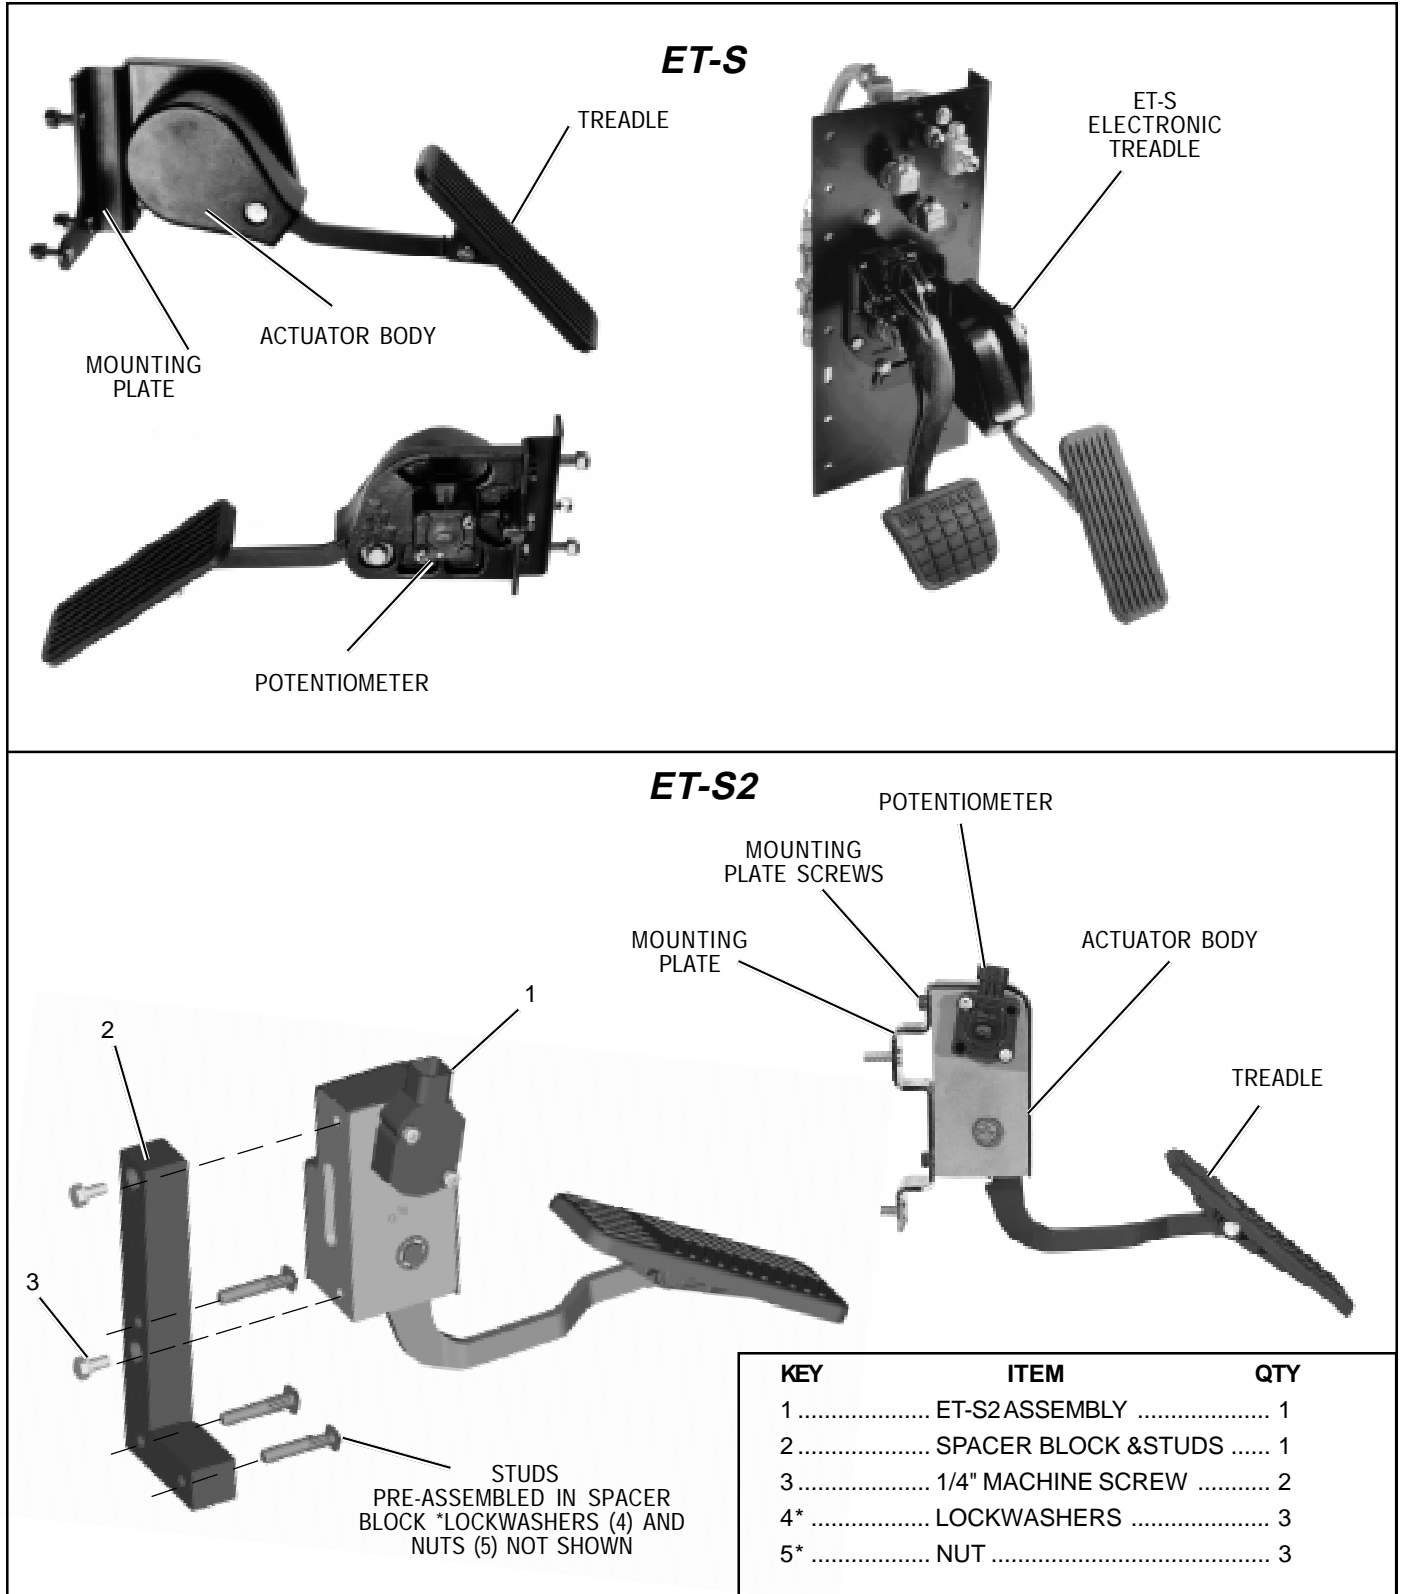

FIGURE 1 - ET-S & ET-S2
1. Use kit contents for assembly. Remove the preinstalled mounting plate from the ET-S2 assembly (1). (This mounting plate is used for ET-S2 assemblies installed as original equipment.) Using the 1/4" machine screws(3) secure the spacer block and studs(2) to the ET-S2 assembly as indicated in figure 1.
2. Using nuts (5) and washers (4) secure the ET-S2 and spacer block to the firewall. Torque to between 85 and 110 lb. in.